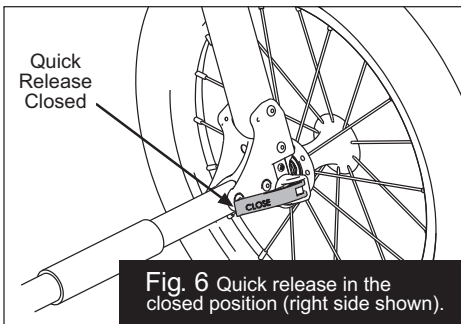

**Fig. 4** Rear wheel Quick Release with lever in open position.
**4. REAR WHEEL:** Place the rear wheel quick release lever in the open position, as shown in Fig. 4. Insert the rear wheel's stub axle into the hole in the
rear dropout. If the axle does not slide in easily, loosen the quick release adjusting nut (Fig. 4) by hand. Re-insert the axle fully into the rear dropout until the axle shoulder or snap ring on the axle comes in contact with the dropout (Fig. 5). Move the quick release lever to the closed position (Fig. 6). The word CLOSE should be clearly visible and the quick release lever should almost touch dropout. When properly adjusted, it will require considerable torque (80-105 in-lbs or 9-12 Nm) to close the lever. If you do not feel this resistance (too loose or too tight), return the quick release lever back to the open position (Fig. 4), and adjust the adjusting nut (clockwise to tighten, counterclockwise to loosen). Move the quick release lever to the closed position (Fig. 6). **NOTE:** Follow all instructions exactly. If you are unsure how to operate the quick release, consult your dealer or contact BOB.